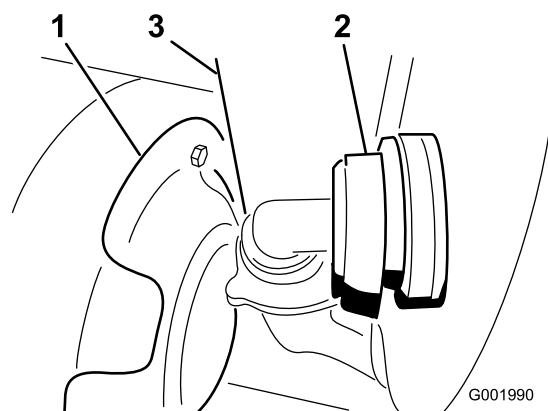

Figure 55
3. Disconnect the hose located on the lower-front face of the tank (Figure 55).
Note: You may need to push the heat shield (Figure 55) back as you remove the cover.